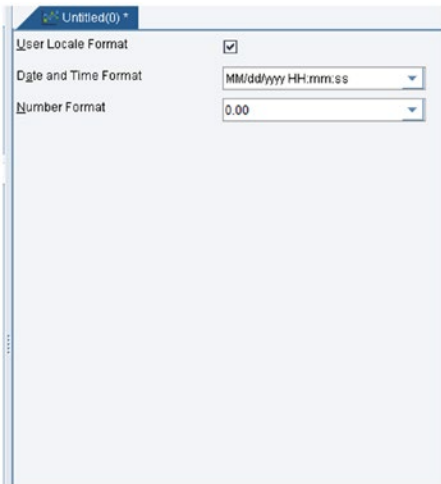

Figure 7-50. *i5spc chart formatting*
- *i5SPC chart formatting*: This function is available to configure the formatting properties for SAP MII SPC charts. See Figure 7-50.